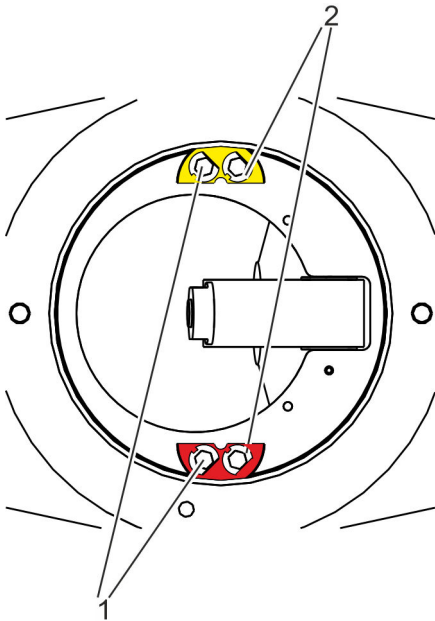

Fig. 16: Looking into the body from above
2. ➤ Unbend the washers (Fig. 16/2).
Unscrew the bolts (Fig. 16/1) and remove them from the body with the washers (Fig. 16/2).